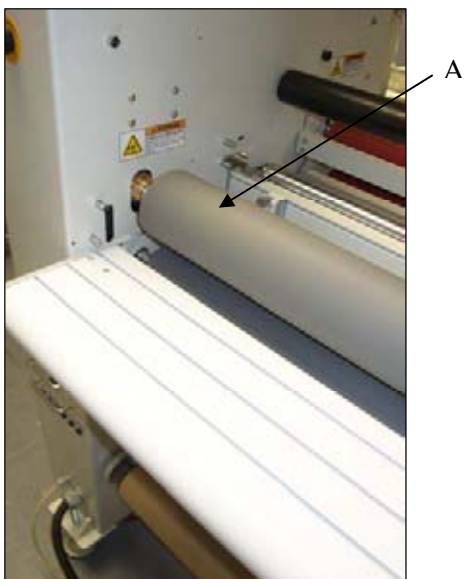

Figure 9
**Pull Rollers:** (Fig. 9 - Item A)